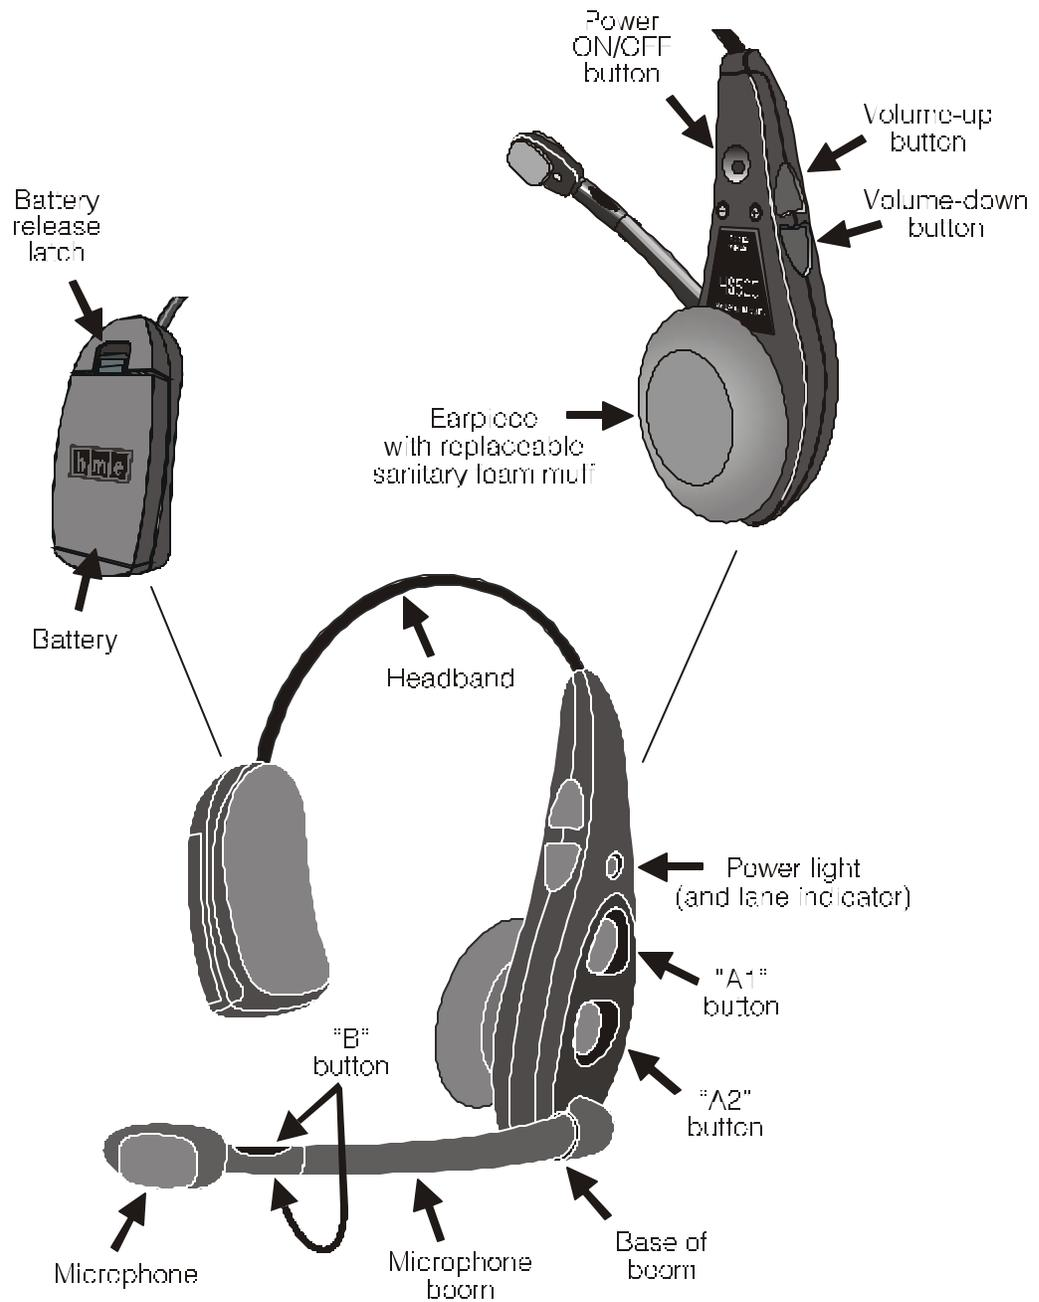
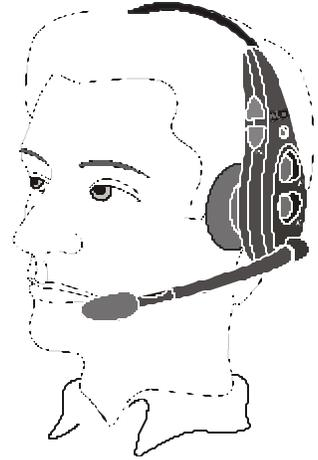

Figure 3. Headset features and controls
Figure 4.
- Hold the microphone boom at its base (See Figure 3) and pivot the boom up or down to adjust the microphone position to the side of your mouth as shown in Figure 4.